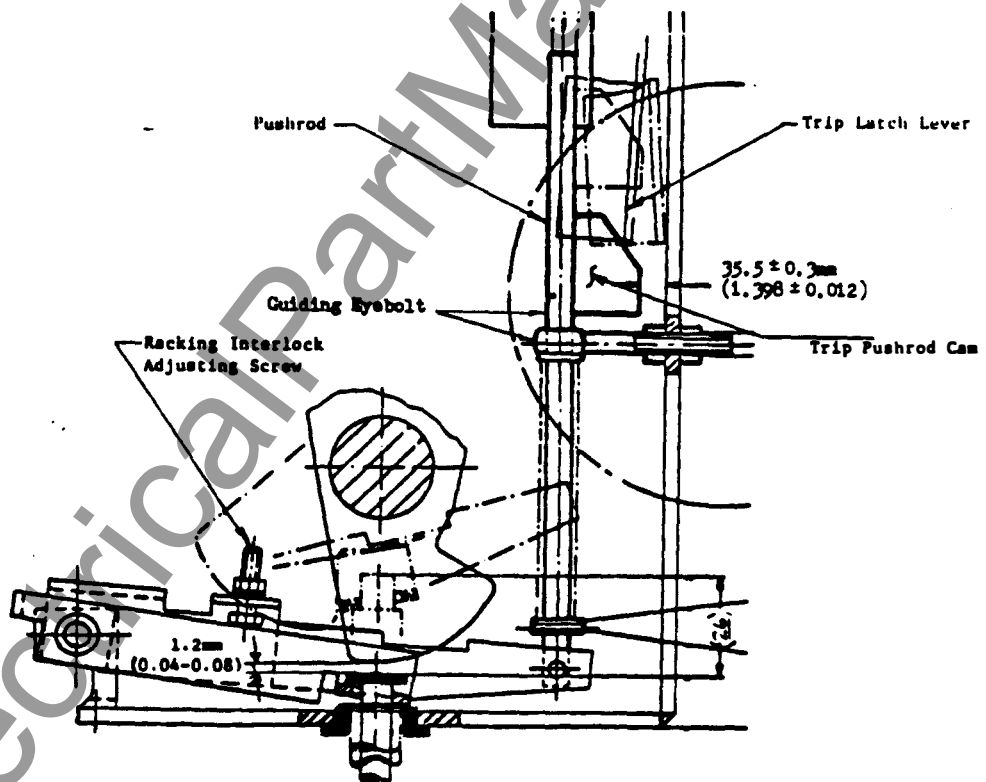
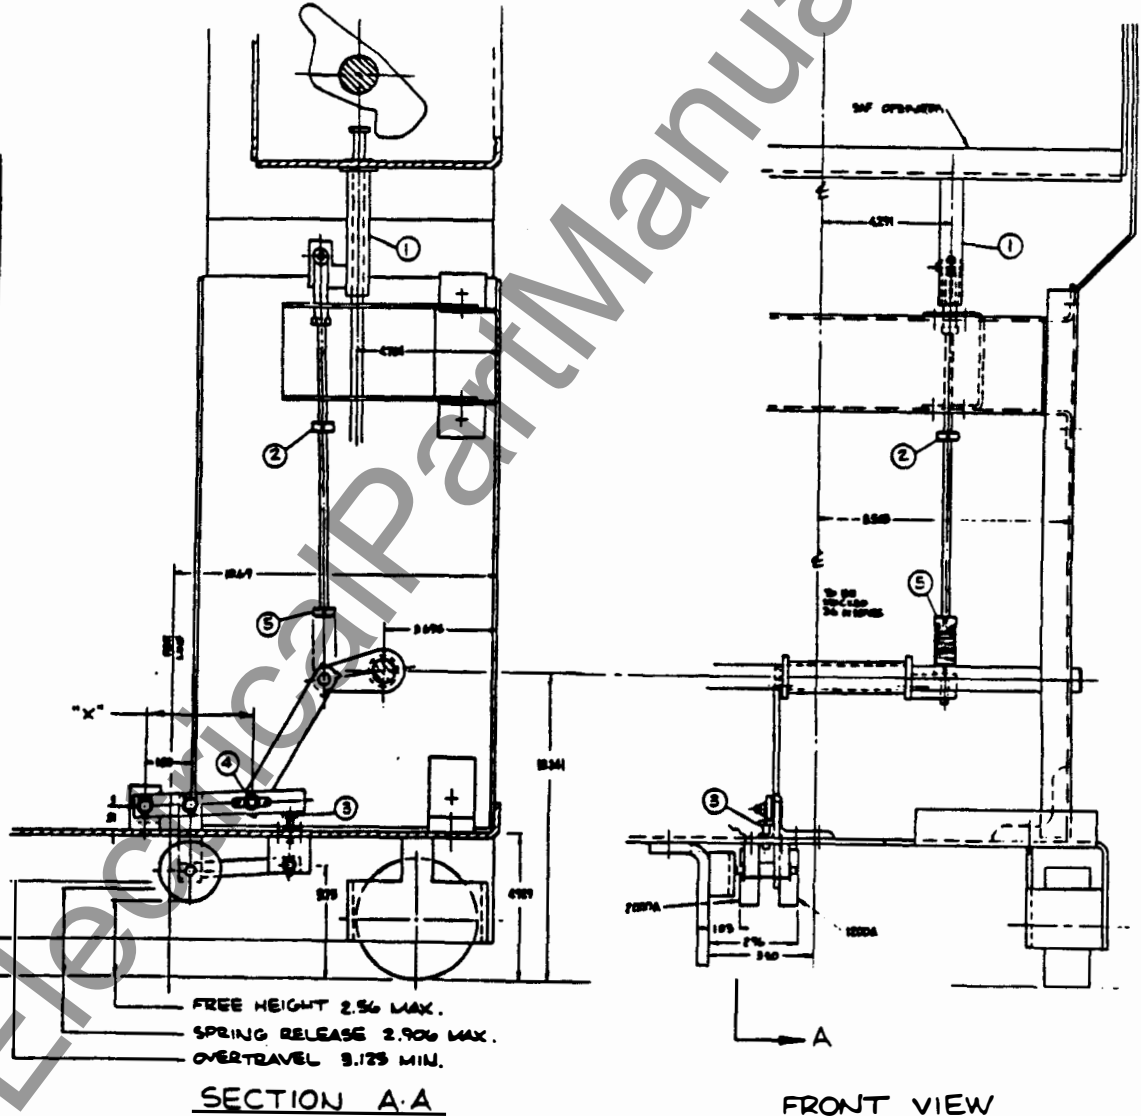

FIGURE 2 RACKING INTERLOCK
FIGURE 3 SPRING DUMP MECHANISM
The mechanism internal to the breaker enclosure may now be adjusted. This adjustment is to be accomplished through the racking "interlock adjusting screw" (see Figure 2). Block the lever which engages the floating tip of the pushrod, Figure #1, by inserting a 2mm (.080-inch) shim between the lever and first washer attached to the floating tip. This action simulates the effect of lifting the "racking release lever" on a closed breaker. Be sure the breaker is open while performing this adjustment.
Advance "racking interlock adjusting screw" to raise trip pushrod and cam. Continue this action until the pushrod cam contacts and bears against the trip latch lever, see Figure 2. Lock adjustment with jam nut. Remove blocking, charge and close breaker. Attempt to raise racking release lever and check that pushrod is blocked by the breaker shaft cam. Open breaker and recharge closing springs. Raise rail plunger to an elevation of 2.06 inches by lifting the "breaker racking release handle." Hold the handle in this position and close the breaker. The breaker must operate "trip free" and not close.
Refer to Figure 3. With breaker in the "open" position, displace spring dump tube (1) upward approximately 0.88 inches until free movement is lost. The pushrod shown in Figure 2 will begin to bind in its guiding eye bolt. Clamp the spring dump tube in this position.
Free clamp on spring dump tube and allow the tube to move downward until the spring dump tube is flush to the guide bushing on the inside of the mechanism enclosure. Clamp spring dump tube in this position. Adjust the cylindrical pivot to dimension "X" as shown in Figure 3 and tighten firmly in place. Note: be sure to rotate cylinder pivot toward rear of breaker to ensure slot is positioned to enable full angular motion. A good initial estimate for dimension "X" is 4.0 inches.